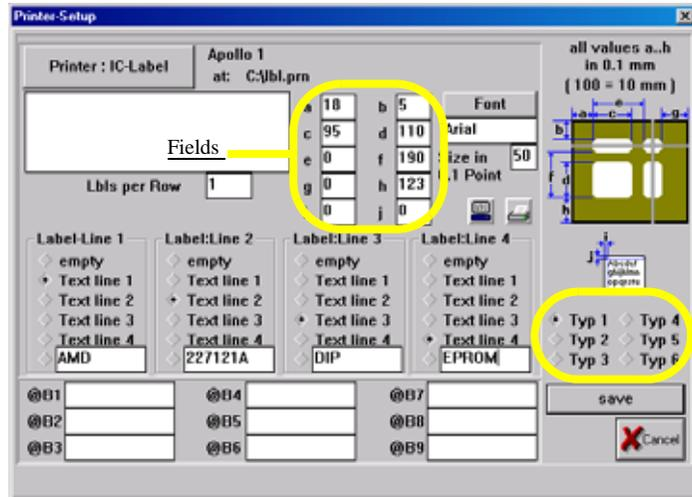

Figure 3-85—Label printing parameters window
- 1b) On the Handler Computer, navigate to and open MRPRT.exe to display the label printing parameters window. See *Figure 3-85*.